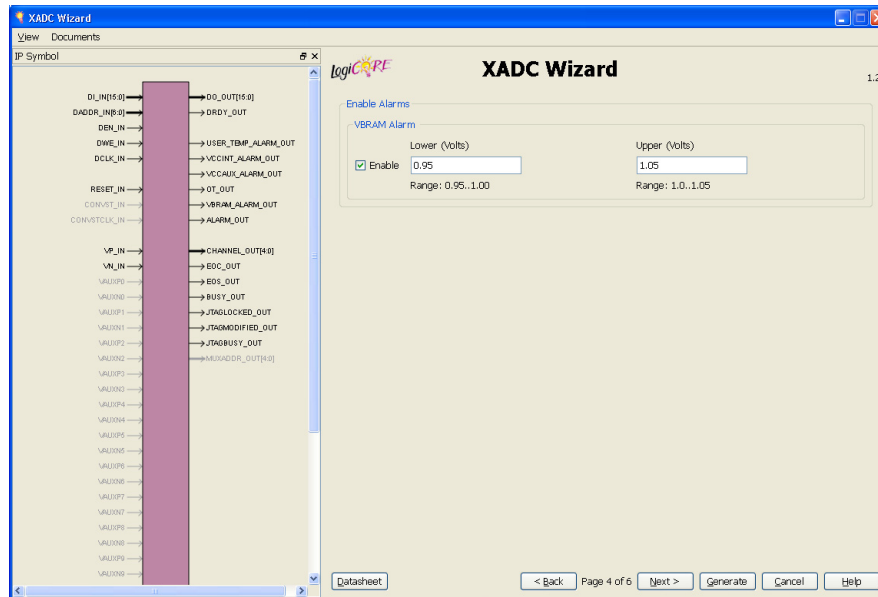
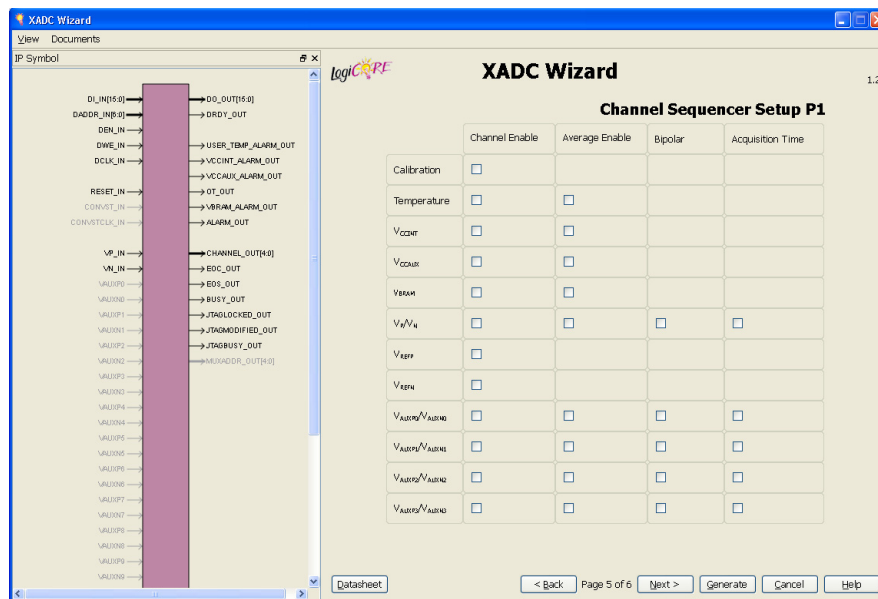

Figure 3-7: Alarm Setup - Page 4
Figure 3-8: Channel Sequencer Setup P1 - Page 5
- Channel Sequencer: Choosing this mode, allows you to select any number of channels to monitor. The channels to be used for this mode can be selected on Page 4 (Figure 3-7) and Page 5 (Figure 3-8) of the Wizard.
Channel Sequencer Setup P1 (Figure 3-7) and Setup P2 (Figure 3-8) screens of the Wizard are used to configure the XADC sequence registers when the XADC is configured in Channel Sequencer, Simultaneous sampling or Independent ADC mode. All the possible channels that can be included in the sequence are listed in the table spread across screens 5 and 6 (Figure 3-7 and Figure 3-8) of the Wizard: